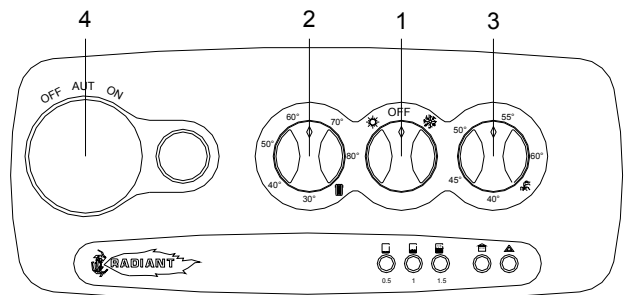

Fig. 1
- ⇒ **The anti-freeze system will come into operation only if the boiler is in the «ON» position (with selector switch 1 in fig. 1 turned to the summer or winter position) and the gas supply turned on. The manufacturer can accept no responsibility for damage to the boiler caused by lack of observation of these requirements.**
LEGEND (see fig. 1)
- Turn selector switch 1 to the ❄ symbol denoting winter (see fig.1).
The heating temperature is regulated by turning knob **2** (fig.1, pag I) to the temperature required, chosen from the different values printed around the selector.
The hot water temperature is regulated by turning knob **3** (fig.1, pag I) to the temperature required, chosen from the different values printed around the selector.
- set Main Switch (1) to OFF position (fig.1 page I)
- set Main Switch (1) either to summer or winter position (fig. 1 page I). The boiler comes into operation.